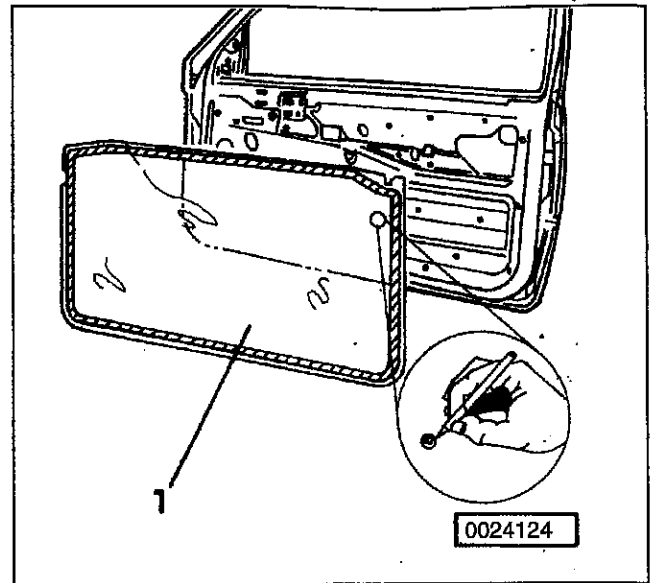

Fig. 14. Trim around securing clip, then pull vapor barrier (1) down only as far as is necessary.
4. Using a razor blade, carefully cut vapor barrier around trim panel securing clip retainers. See Fig. 14.